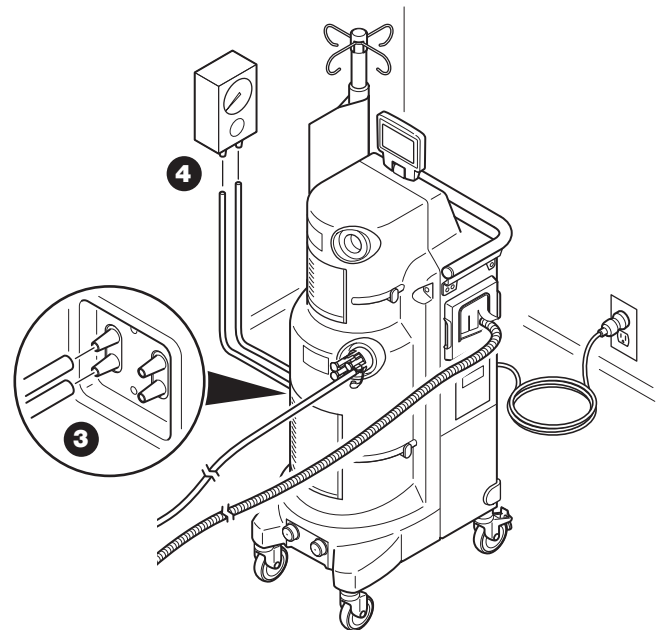

Figure 47 To Connect Auxiliary Suction Ports
3. Attach suction tubing between the hospital wall suction regulator and the auxiliary suction ports on the rover (Figure 47).